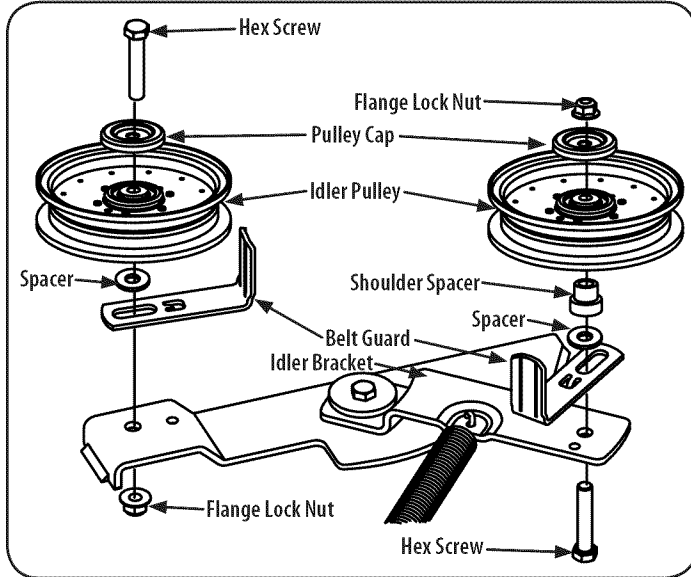

Figure 37
- Remove the movable idler pulleys and belt guard on the left pulley by removing the hex screws, pulley cap and flange lock nuts that secure them to the idler arm and deck. See Figure 37. Do not lose any of the hardware when removing the hex screw, belt guard, pulley cap, spacer, shoulder spacer and flange lock nut.
- Place the belt around the idler pulleys removed in step 3 with the "V" side facing in. Once in place, reinstall all the hardware and tighten the flange lock nut to secure the assembly. See Figure 37.
- Route the belt as shown in Figure 37 and then reinstall the deck (refer to Deck Installation).